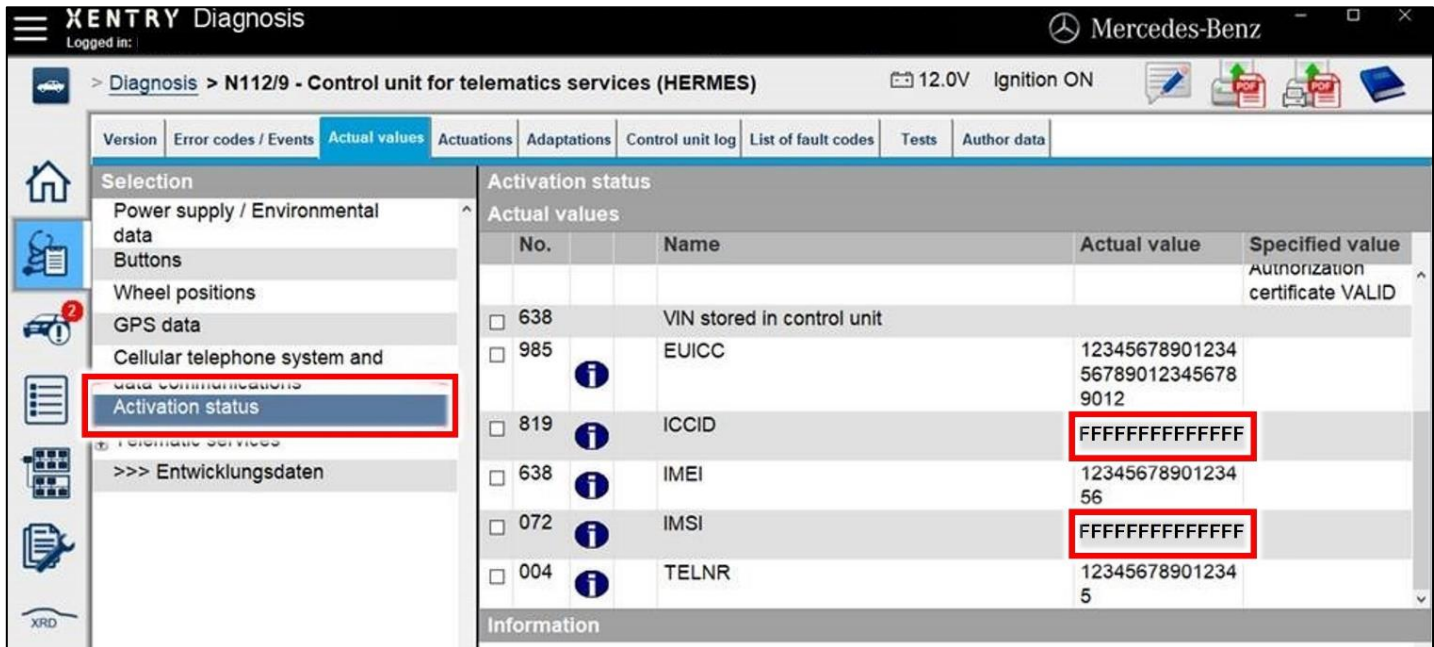

Figure 1
2. Check data of SIM card in HERMES control unit (N112/9) with XENTRY Diagnosis (**Figure 1**).
- If XENTRY Diagnosis displays "FFFFFFFFFFFFFF" for the "ICCID" and "IMSI" actual values (Figure 1): Carry out only **Work Procedures 3 and 4**.